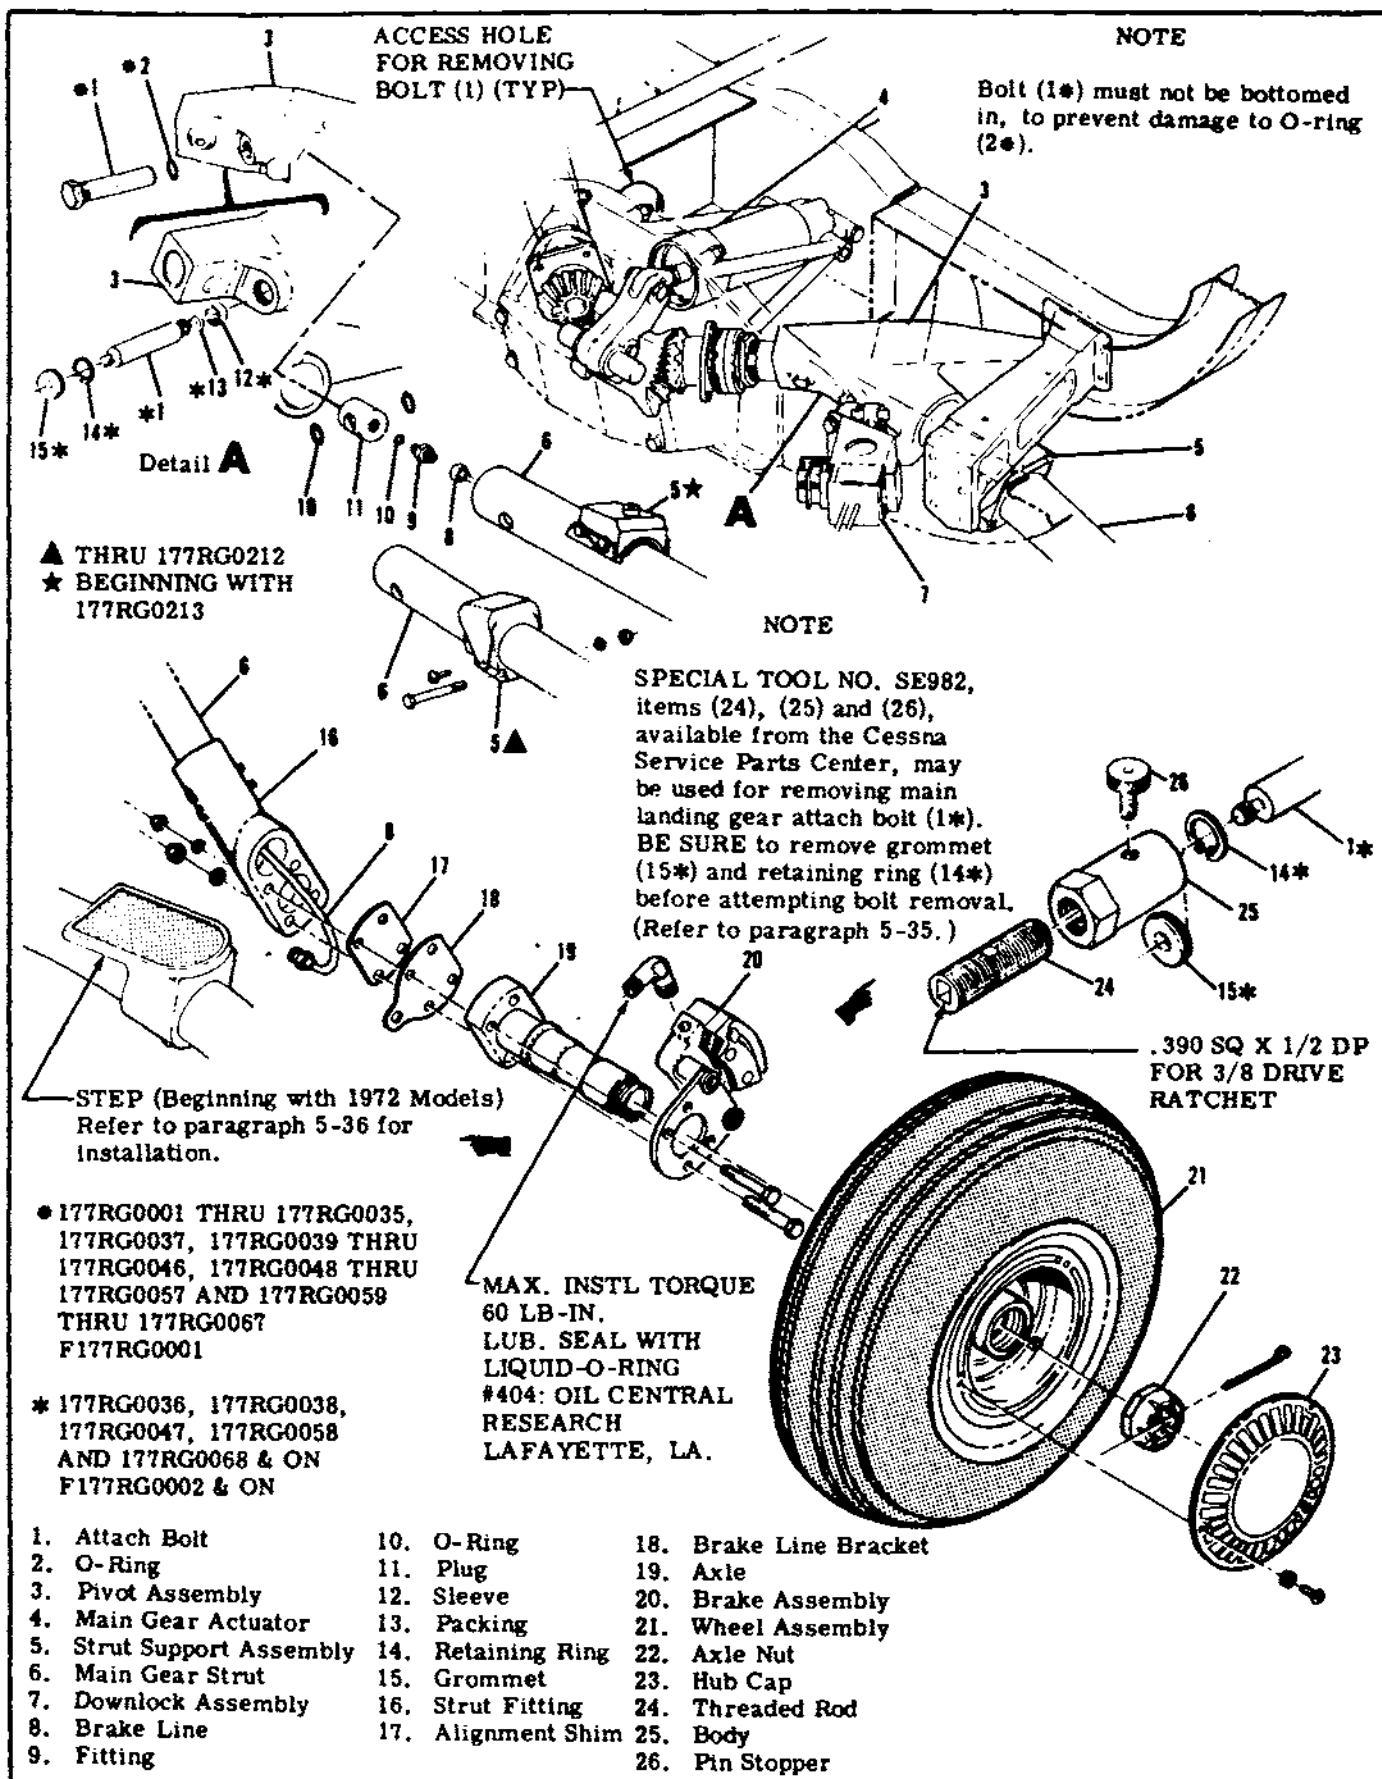

Figure 5-7. Main Gear Strut Removal
- f. Using main landing gear strut-attach bolt remover tool, remove attach-bolt. The tool is illustrated in figure 5-7. Access to bolts is gained through access holes in the belly stringers adjacent to the main landing gear actuator.
- f. Disconnect brake line and remove wheel, axle and strut fitting. (Refer to figure 5-7.)